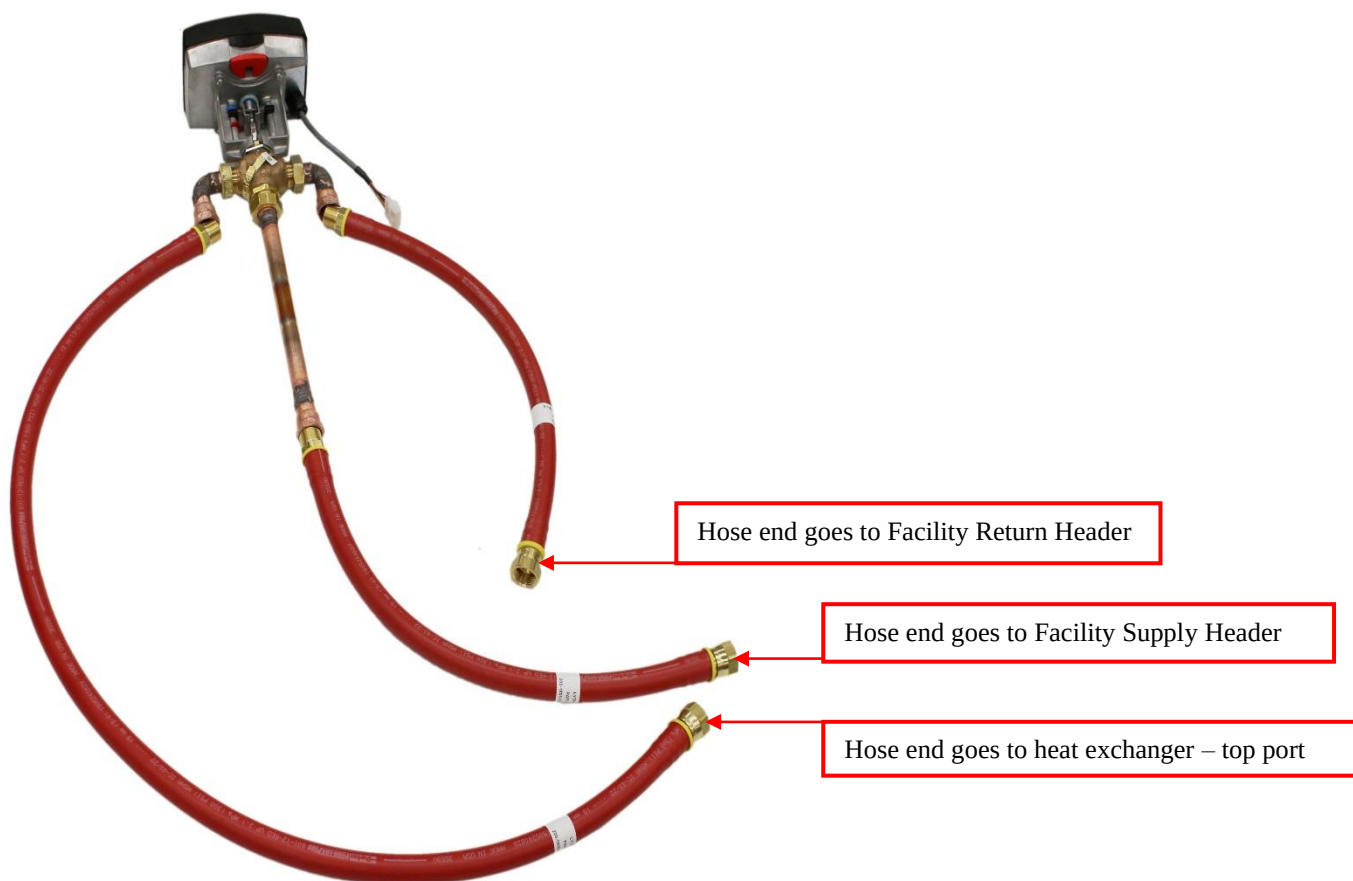

Figure 10 PE Mixing valve detail showing ports A, B, and AB for reference
- Push back insulation around the 'A' side of the mixing valve. Using a 3/4" wrench and an Adjustable for support loosen the 3/4" hose connector going to the 'A' port of the mixing valve. See Figure 10 below for port locations and destination reference (GC or PE side)
- a. Push back insulation around the 'AB' side of the mixing valve. Using a 3/4" wrench and an adjustable wrench for support, loosen the 3/4" hose connector going to the 'AB' port of the mixing valve. Refer to Figure 10 & 12 for port locations and destination reference (GC or PE side)